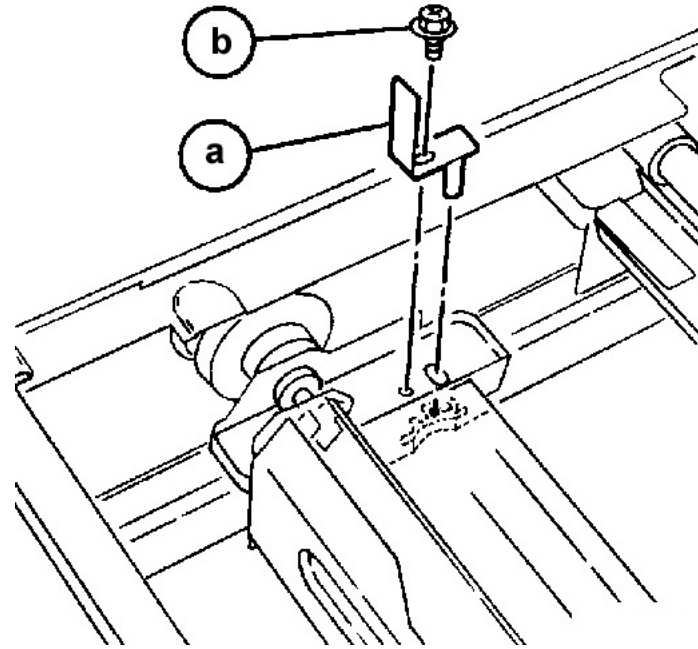

Figure 3 Installing alignment tool in locating hole
8. Install and secure the alignment tools into the Front and Rear of the Half Rate Carriage. Figure 3